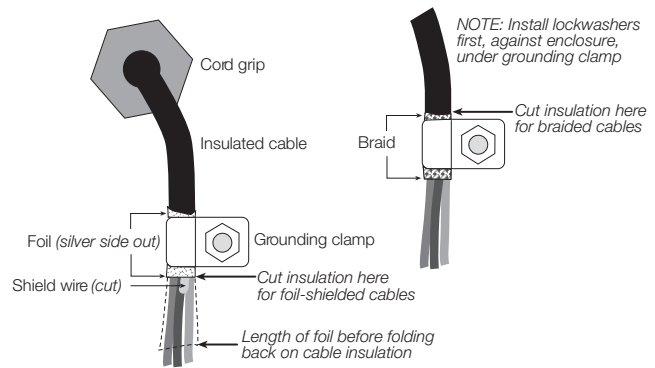

Figure 5-6. Grounding Clamp Attachment for Foil-Shielded and Braided Cabling
- For cables with foil shielding, strip insulation and foil from the cable half an inch (15 mm) past the grounding clamp (see Figure 5-6). Fold the foil shield back on the cable where the cable passes through the clamp. Ensure silver (conductive) side of foil is turned outward for contact with the grounding clamp.
- For cables with braided shielding, strip cable insulation and braided shield from a point just past the grounding clamp. Strip another half inch (15 mm) of insulation *only* to expose the braid where the cable passes through the clamp (see Figure 5-6).
- Route stripped cables through cord grips and clamps. Ensure shields contact grounding clamps as shown in Figure 5-6. Tighten grounding clamp nuts.